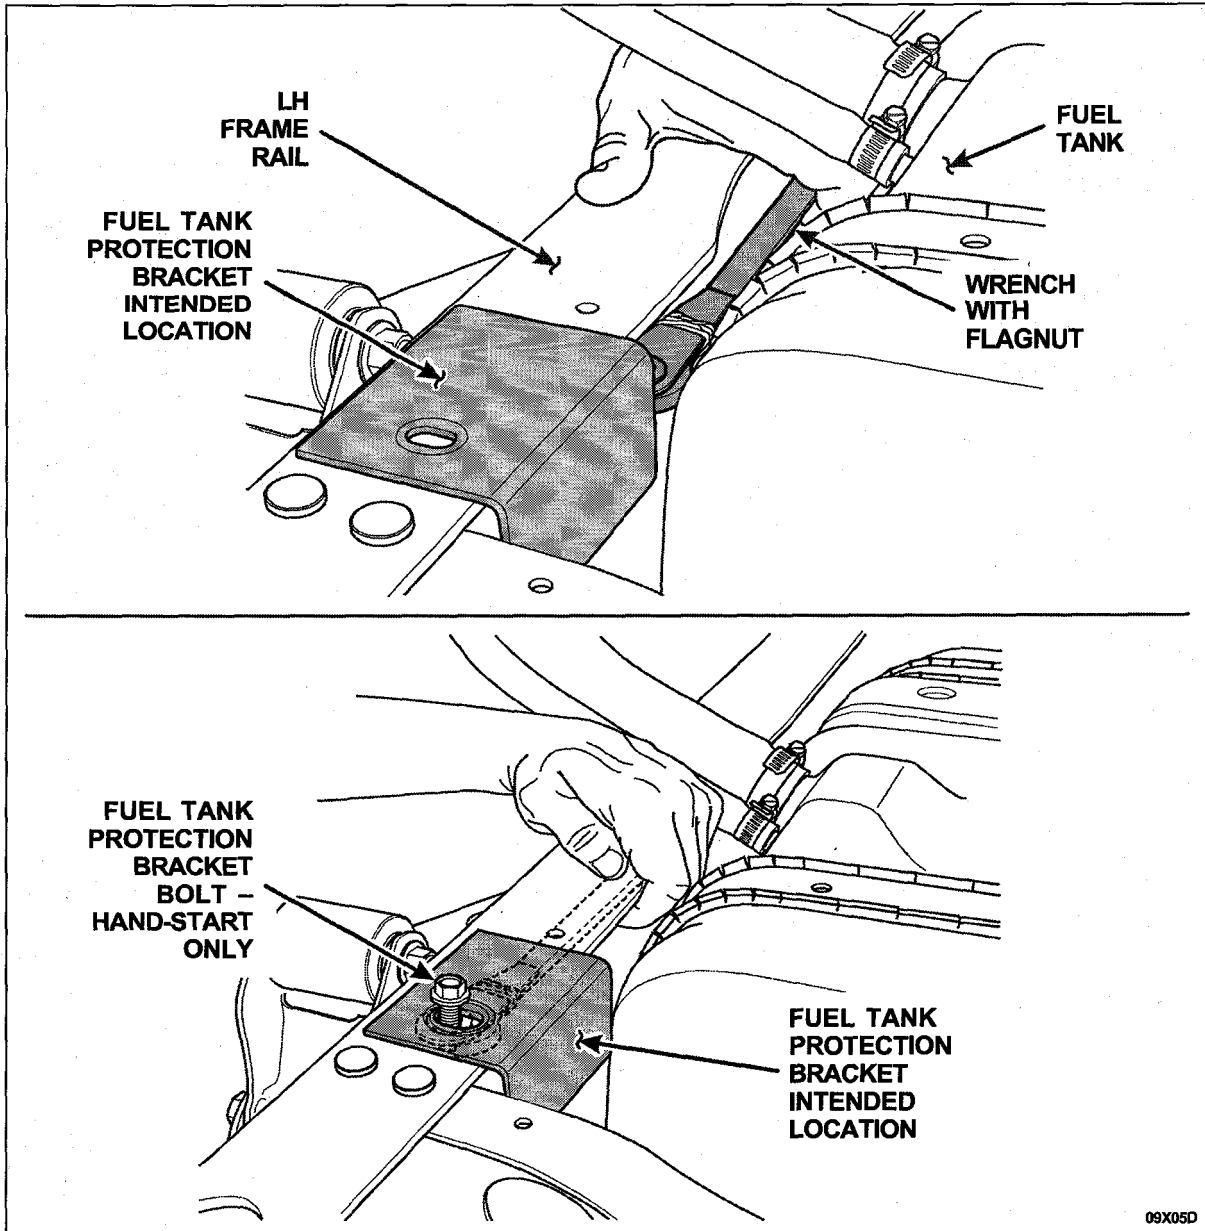

FIGURE 8
4. Position the open-end wrench with the attached flagnut between the inside of the frame rail and the fuel tank protection bracket. Align a *new* bolt with the flagnut and *hand-start* the bolt. Remove the open-end wrench. See Figure 8.